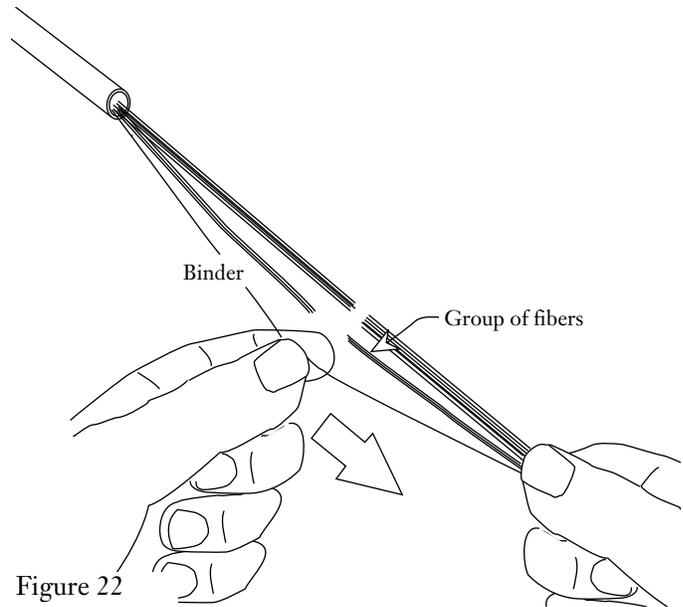

Figure 22
6.10 Slide your finger along this binder and fibers while still tightly holding the groups of fibers with the opposite hand. This will cause the lay lengths of this group of fibers to decrease, making the fiber bundle evident (Figure 22).